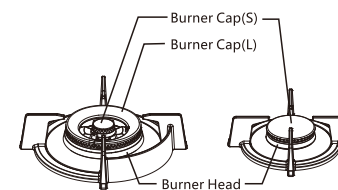

Fig.2
Install the Burner Cap(S) and Burner Cap(L) into Burner Head (Fig.2), do not tilt or leave gap during installation (Fig.3).